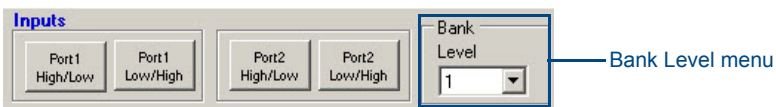

FIG. 64 Bank Level menu
16. Select **Red** from the Color menu, and select **1** from the Bank Level menu on the right side of the window (FIG. 64).